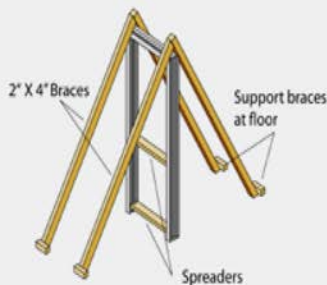

Figure 1: Bracing the frame
- 3 Brace the frame with 2" x 4" (50.8 mm x 101.6 mm) wood studs, as shown in Figure 1.